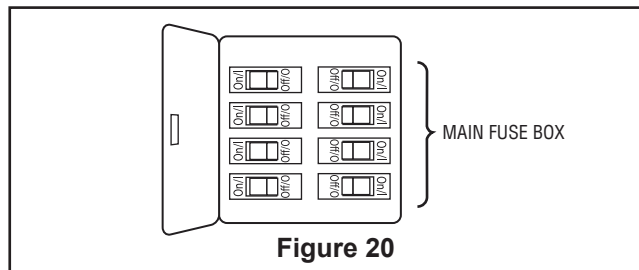

Figure 20
1. Restore electrical power to the outlet box by turning the electricity on at the main fuse box (Figure 20).